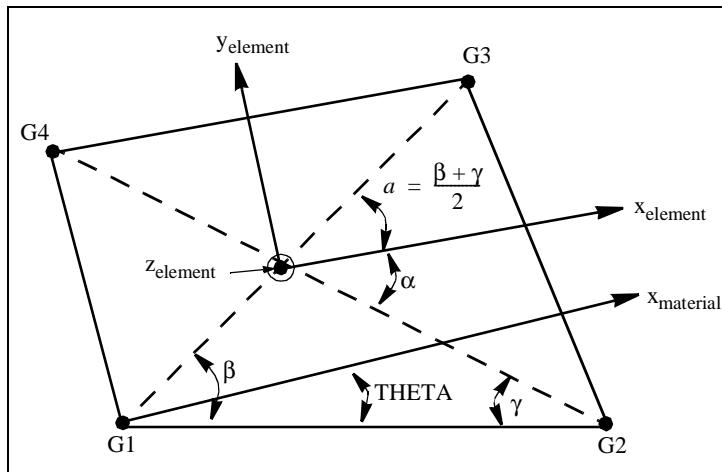

Figure 4-19 CQUAD4 Element Geometry
2. As shown in Figure 4-19, grid point ordering (which must be consecutive around the element) determines the orientation of the local element coordinate system, and the element edge from which the material orientation is measured when the THETA option is used.